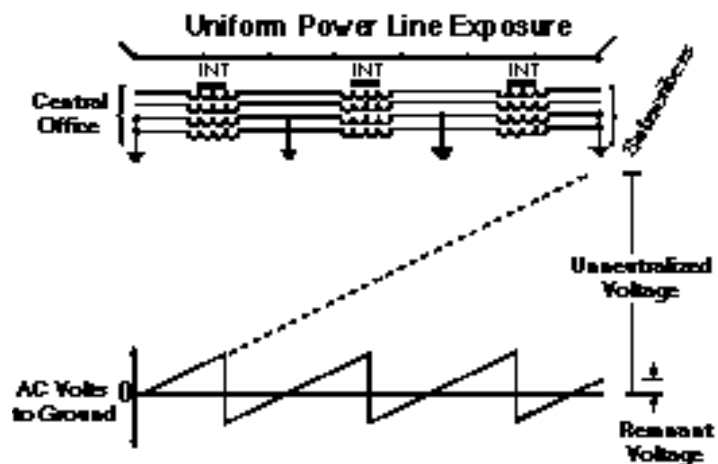

Figure 10: Tandem INT Installation
**5.10** Keeping the overall  $V_g$  or PI low is one reason that more than one INT may be needed for best results. The tandem INT installation is a practical method for reducing or eliminating equipment malfunctions, electrical safety hazards and reducing noise. While providing overall cable and equipment electrical protection, the INTs will also instantaneously suppress surge induced voltages up to their rated steady-state capabilities. For example, three 50 pair INTs in a 15 mile exposed cable will suppress up to 3 x 600 volts rms, or 1800 volts rms. Peak voltage would be  $1800 \times 1.414 = 2545$  volts. See Figure 10 for a tandem or multiple INT installation.